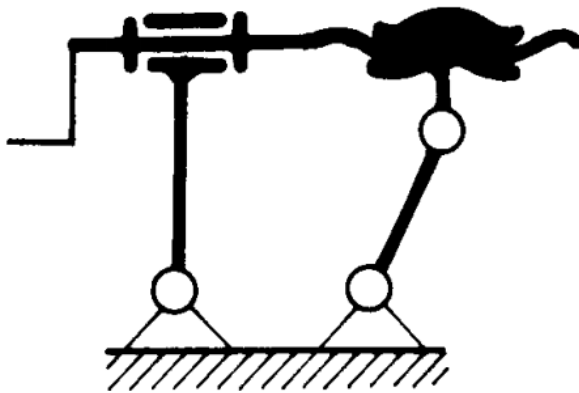

Fig. 2. Family 2 – 4 DOF in total [Miller 1989]
**Family 2** – all links have taken away the same DOF. For the mechanism in Figure 2, this is rotation about the vertical axis and translation about the axis perpendicular to the plane of the figure.